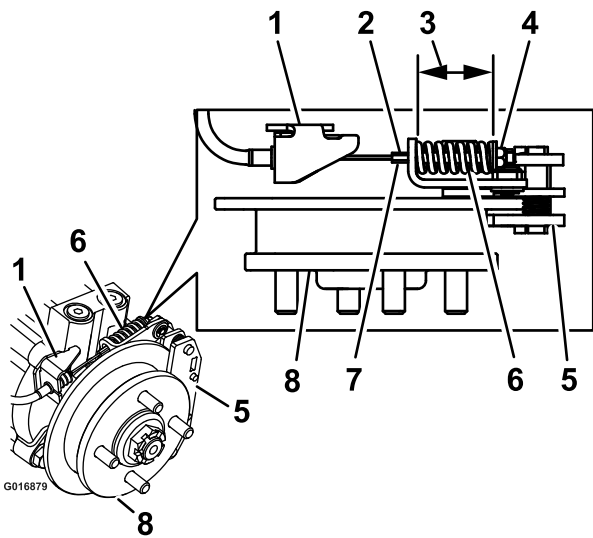

Figure 71
9. Hold the threaded rod end with a tool and adjust the lock nut until the spring length is between 1-1/2 and 1-9/16 inches (3.8 and 4.0 cm) (Figure 71). Do Not allow the cable to turn when the nuts are being loosened.